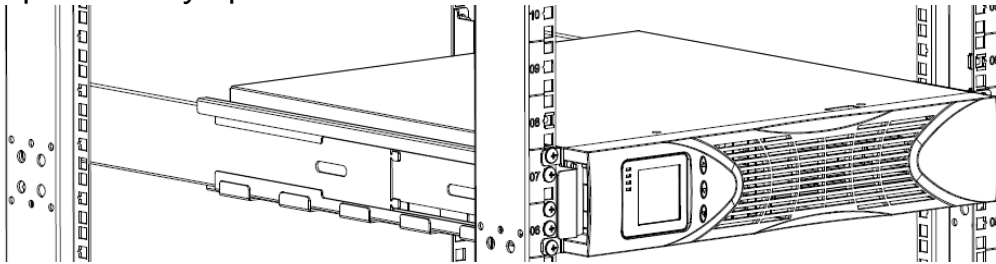

Figure 3 Securing the Front of the Cabinet
- j) Secure the front of the UPS to the rack using four M5×25 pan-head screws and four M5 floating nuts (see Figure 3).